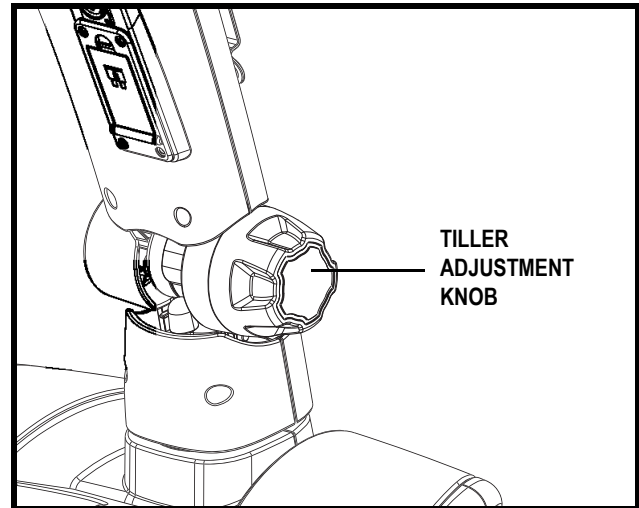

Figure 14. Tiller Adjustment
1. While supporting the tiller, turn the tiller adjustment knob counterclockwise to loosen the tiller. See figure 14.